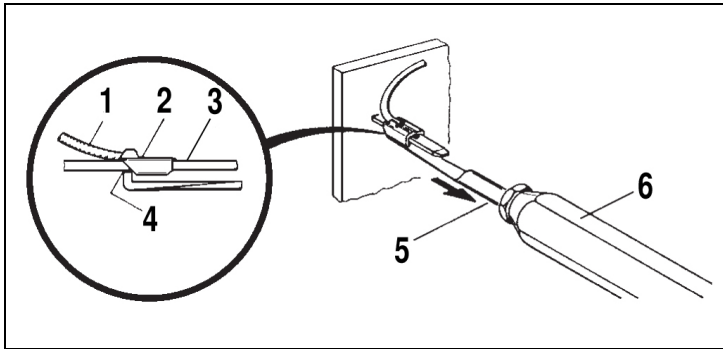

Fig. 34: Clip Retention Check
1. Hook tip of test tool squarely against ends of curls at front end of clip (Fig. 34).